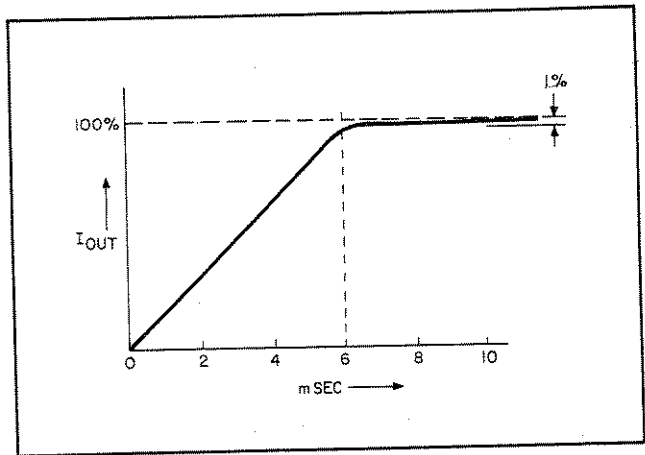

Figure 5-8. Up-Programming Speed Waveform
- f. The programming speed should be within the tolerances of Figure 5-8. Output should go from zero to 99 Volts (Model 6177C) or from zero to 49.5 Volts (Model 6181C). Fall time (down programming) should be almost identical to the rise time shown on Figure 5-8 except for inversion.